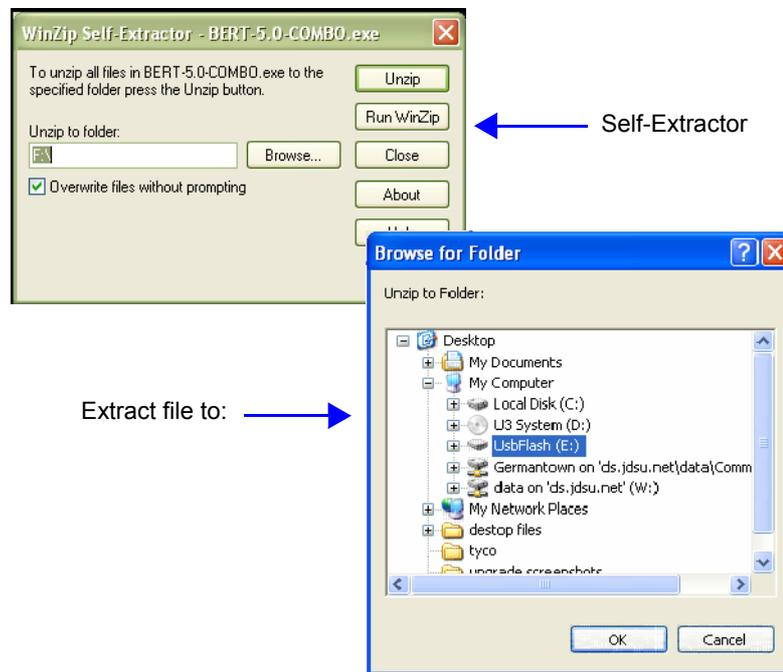

Figure 5 WinZip dialog boxes
The WinZip Self-Extractor dialog box appears as illustrated at the top of Figure 5.
- 3 When prompted to specify where the extracted files should be stored, select the drive assigned to the USB port, and then extract the files. Figure 5 illustrates drive letter E: for the USB port; however, a different drive letter may be assigned to the USB port on your computer or laptop.